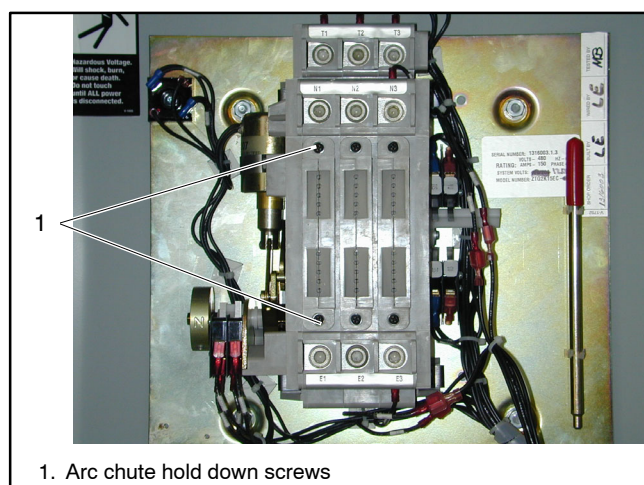

Figure 7-51 Arc Chute Screws
5. Remove the arc chute hold down screws. See Figure 7-51.